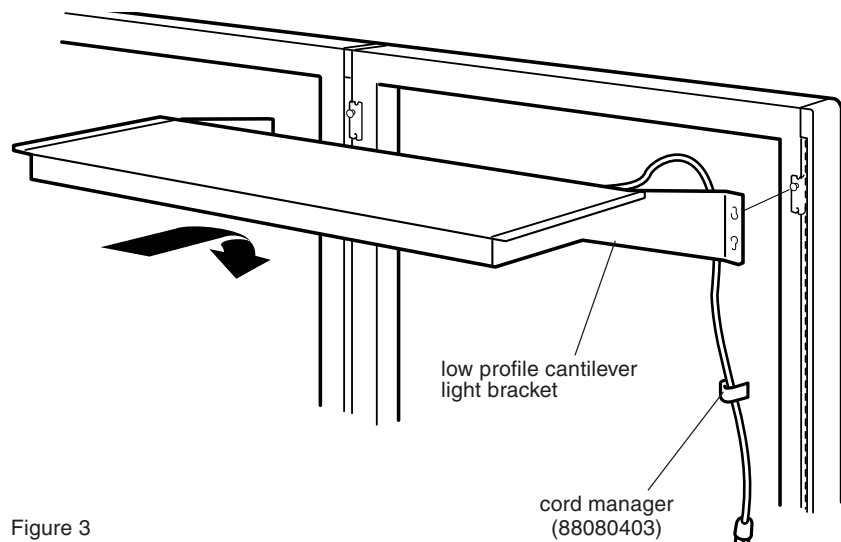

Figure 3
4. At designated mounting height, engage hanger clips on the left and right-hand sides of frame with the screws at the top. Make sure clips are firmly seated in the frame. (Figure 3)
5. Align large end of top keyhole slot on cantilever brackets with the 5/16-18 screws. Slide task light and cantilever assembly down over screws to engage. Install two additional screws in the bottom holes. Tighten screws securely. (Figure 3)
6. Route cord down along panel joint and secure to hanger frame with cord managers provided. (Figure 3)